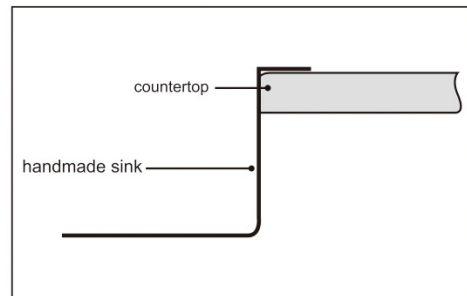

FIGURE 1
A. Flush mount: Sink edge is flush with countertop opening. (FIGURE 1)